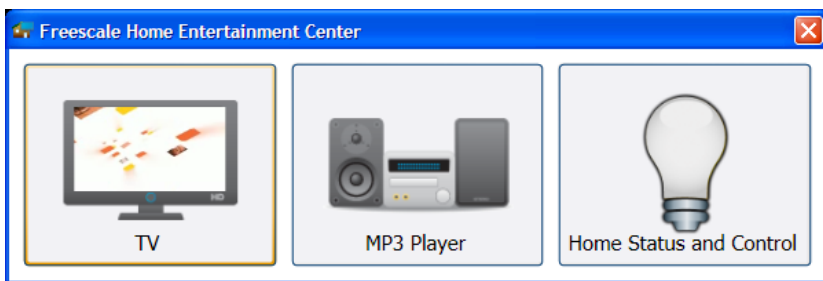

Figure 3. HECA Start View Toolbar
2. At startup, HECA displays a toolbar style UI from which each one of the three simulated Consumer Electronics devices can be launched as shown in Figure 3.